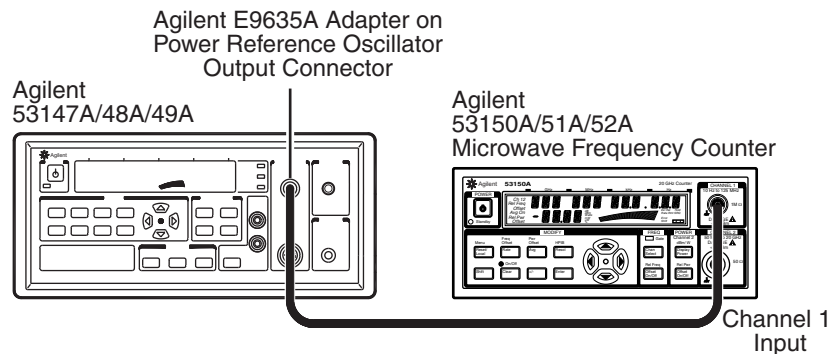

Figure 1-7. Reference Oscillator Frequency Adjustment Setup
- 1 Connect an Agilent E9635A adapter to the Agilent 53147A/48A/49A's Power Meter OUTPUT connector as shown in Figure 1-7.